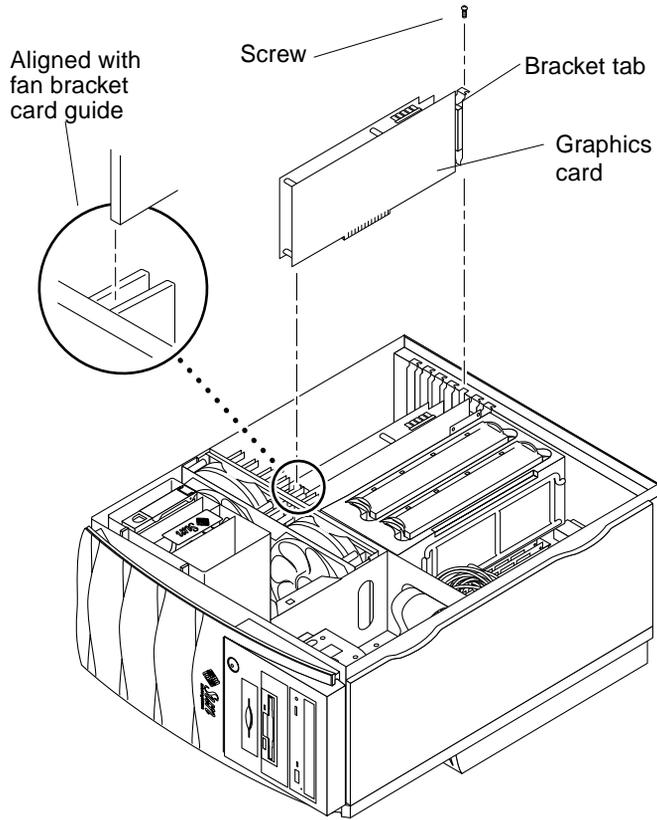

FIGURE 8-17 Removing and Replacing a Graphics Card
4. **Using a No. 2 Phillips screwdriver, remove the screw securing the graphics card bracket tab to the workstation chassis (FIGURE 8-17).**
1. **Position the graphics card in the chassis** (FIGURE 8-17).